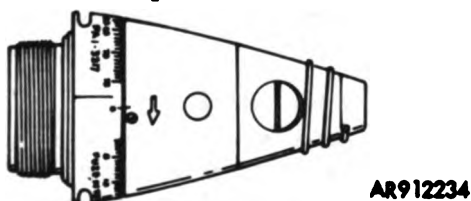

Figure 211.18. Mechanical time and superquick fuze M501A1.
d. Fuze, Mechanical Time and Superquick, M501A1 or M501 (fig. 211.18). Fuze, M501A1 or M501 is a combination mechanical time and superquick fuze with settings for time action (2 to 75 seconds), and an impact element for superquick action but has no booster for detonation action. Do not use this fuze in any HE, WP, or gas projectile. When set for airburst, 20 percent fail to function with charge 1 and 10 percent with charge 2. Fuze will function on impact.